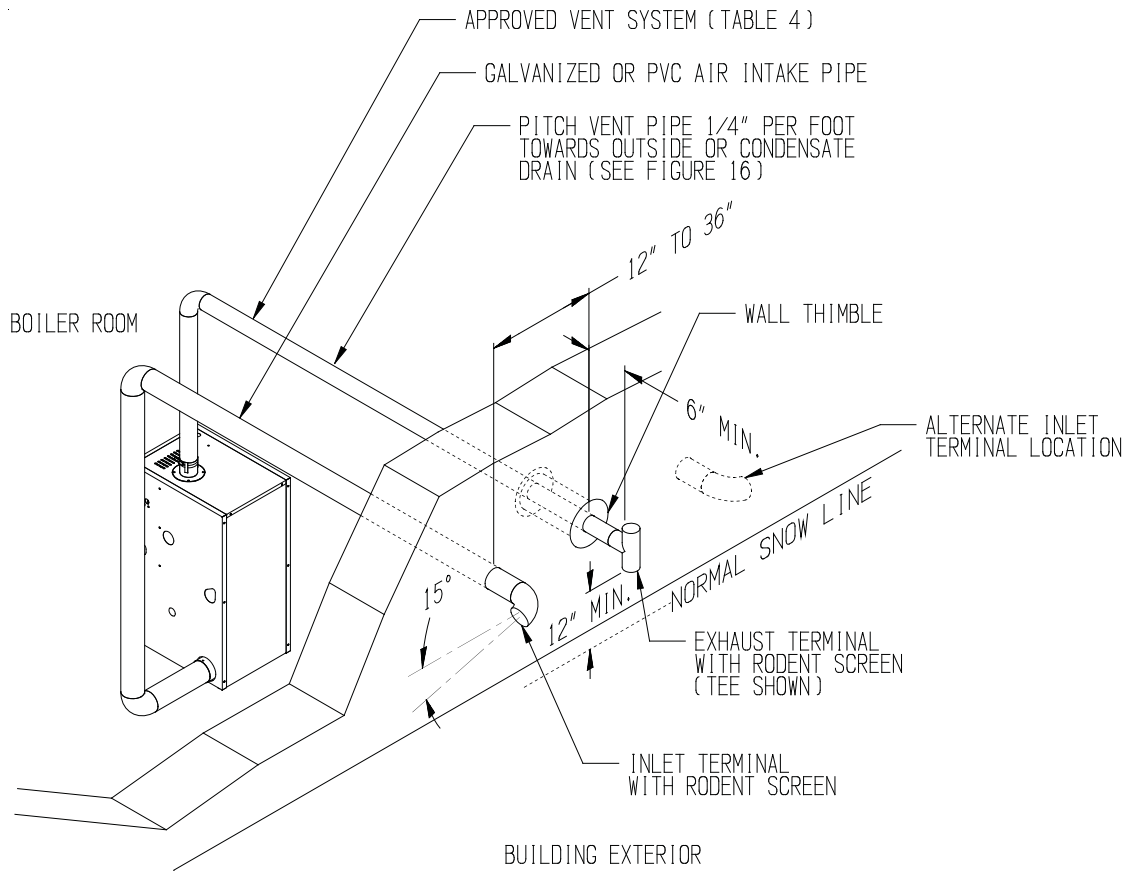
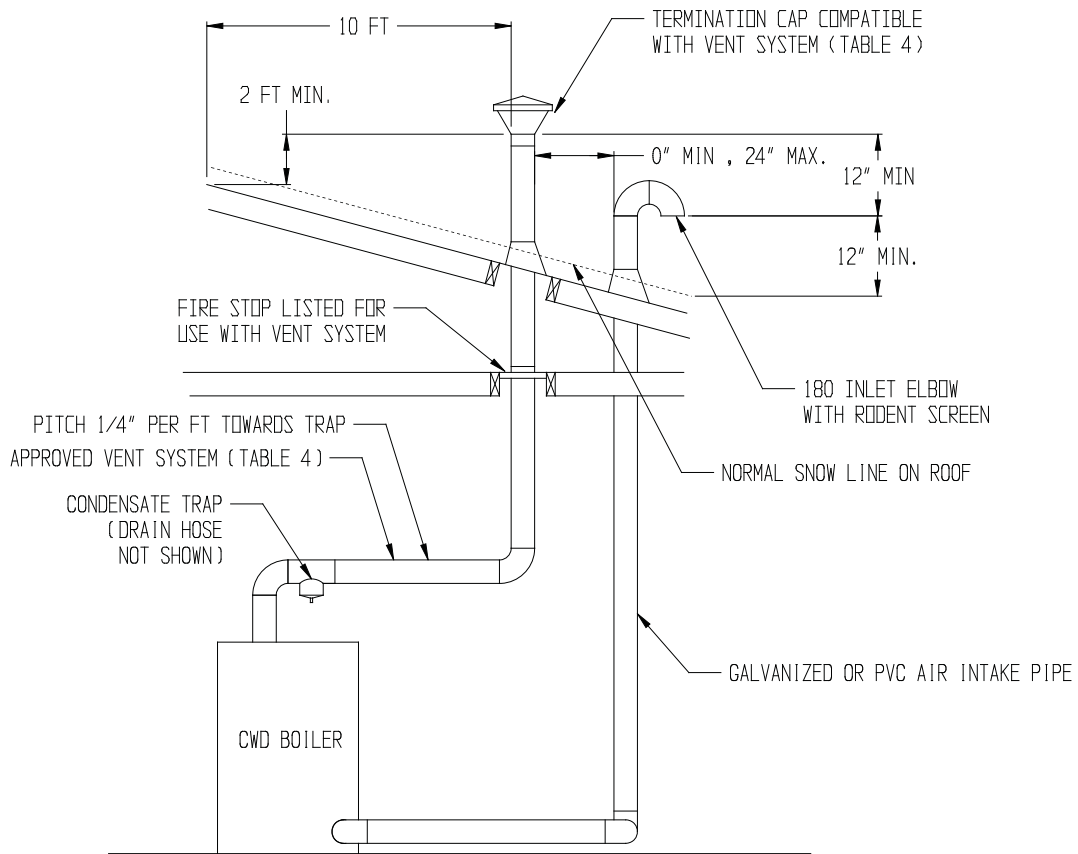

FIGURE 8a: HORIZONTAL DIRECT VENTING USING SEPARATE TERMINALS (VENT OPTIONS 1-2)
FIGURE 10: VERTICAL NON-COAXIAL DIRECT VENT SYSTEM (VENT OPTIONS 6, 7)
Except when the Crown 50-003 or 50-004 coaxial terminals are used, the air intake fitting on a horizontal direct vent system (Options 1 - 2) is always a 90 degree elbow with a rodent screen. This elbow is made out of the same material as the rest of the air inlet system (either galvanized or PVC) and is installed as shown in Figure 8a.
- Vertical direct vent systems (Vent Options 6 - 8) can have combustion air obtained from either a vertical or horizontal air intake system. When combustion air is obtained from the roof, the air inlet terminal consists of a 180 degree elbow (or two 90 degree elbows) with a rodent screen as shown in Figure 10. When combustion air is obtained through a horizontal vent system, the air inlet termination is a 90 degree elbow with a rodent screen as shown in Figure 8a.
- 8) Vertical Vent Terminal Locations (Vent Options 6 - 13) - Observe the following limitations on the location of all vertical vent terminals (see Figs. 10, 11, 12, 13):
- 9) Terminal offsets - Horizontal elbow or tee terminals may be offset by as much as 5 ft as shown in Figure 14. This sometimes helps maintain the 12" minimum clearance required above the snow line. The extra two elbows and the section of vertical pipe on the outside of the building must be counted when checking that the maximum vent / intake pipe length is not exceeded. On horizontal direct vent systems, both terminals must be offset by the same amount so that their relationship to one another is the same as shown in Figure 8a. When this offset is used, the horizontal section of vent pipe must be pitched away from the outside so that condensate cannot collect in the lower offset elbow.